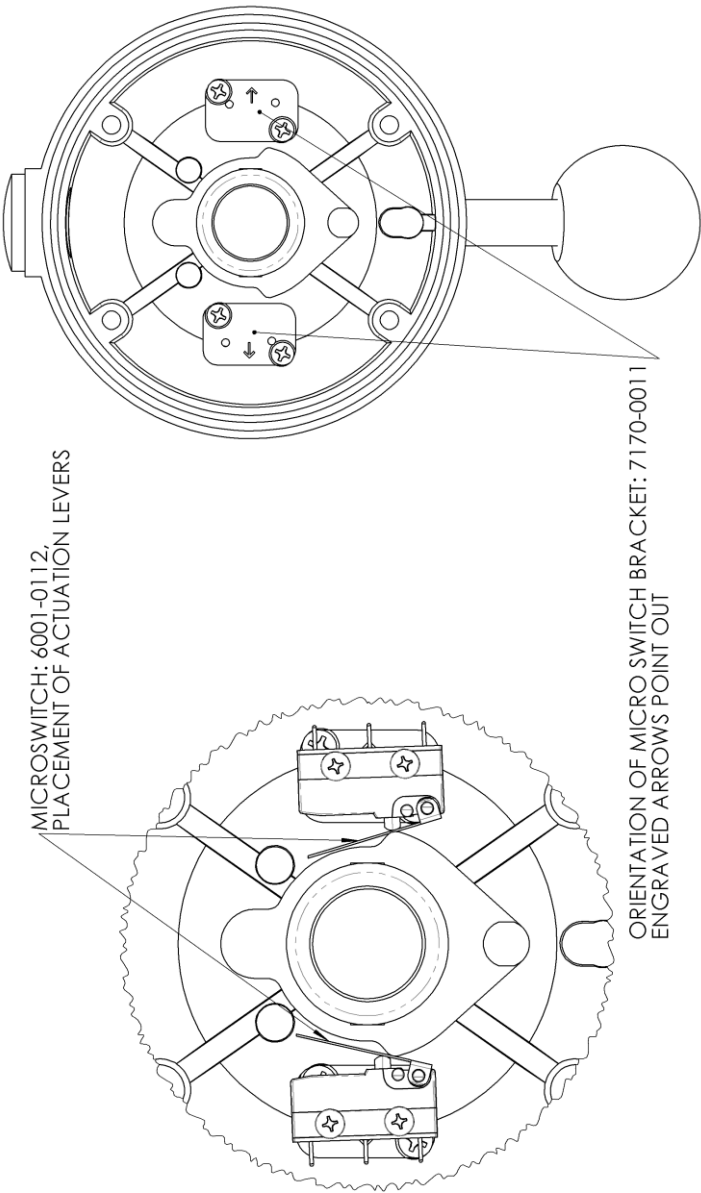

Figure 11: Placement of microswitch and microswitch mounting bracket within the housing.
4. Refer to Figure 11 and note the engraved arrow on the microswitch bracket ① is facing outwards on both sides of jog lever.
5. Apply Loctite 242(Blue) to X2 Flat head screws ④.
6. Install bracket ① with screws ④ into the jog unit housing, 7170-0001, ensuring the engraved arrow is correctly orientated.
7. Refer to Figure 11 and note the orientation of the microswitch ② for the side of the jog unit that the microswitch is being replaced on.
8. Place the microswitch ② on top of the bracket ① orientating the microswitch so the actuation lever is as shown in Figure 11.
9. Apply Loctite 242(Blue) to X2 pan head screws ③.
10. Use X2 screws ③ and tighten to secure the microswitch ②.